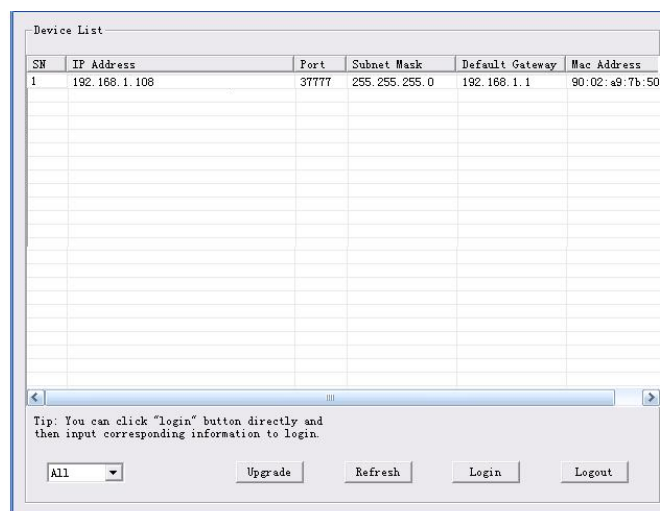

Figure 6- 1
Step 1. Double click the “ConfigTools.exe”icon, you can see an interface is shown as in Figure 6- 1.
Step 2. Select one IP address and then right click mouse, you can see an interface is shown as in Figure 6- 2.